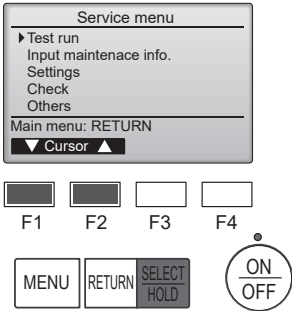

Fig. 7-3
- ③ Select “Test run” with the [F1] or [F2] button, and press the [SELECT/HOLD] button. (Fig. 7-3)